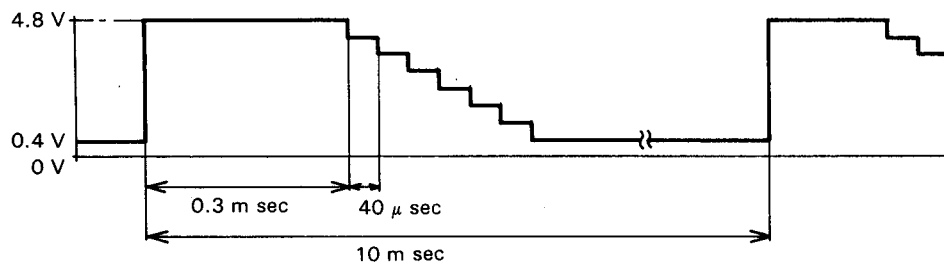

Fig. 14
For example, when EDIT(F) key is pressed, the staircase waveform is as shown in Fig. 14.